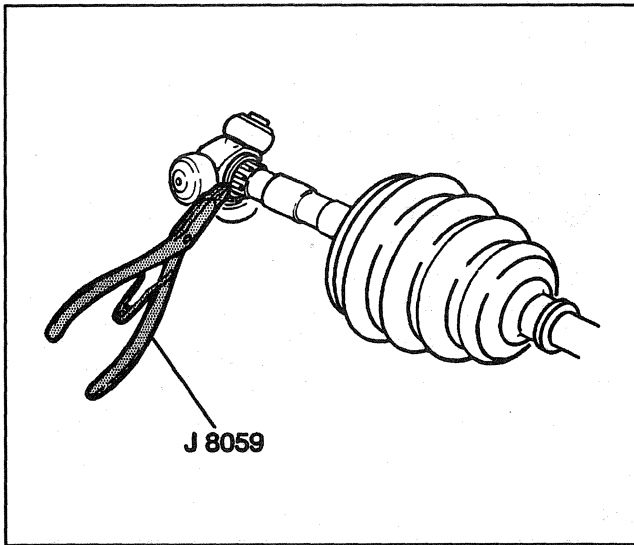

Figure 63—Installing Spider Assembly
3. Spacer ring on the front axle shaft and beyond the second groove as shown (Figure 63).
5. Slide the tripot spider towards the end of the shaft and reseal the spacer ring in the groove on the axle (Figure 63).